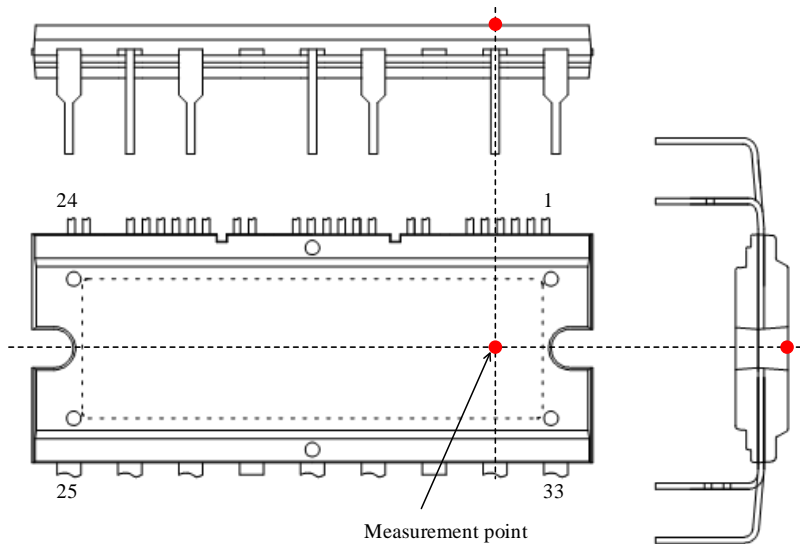

Figure 3-1. Case Temperature Measurement Point
- (1) Refers to a case temperature at the measurement point described in Figure 3-1, below.